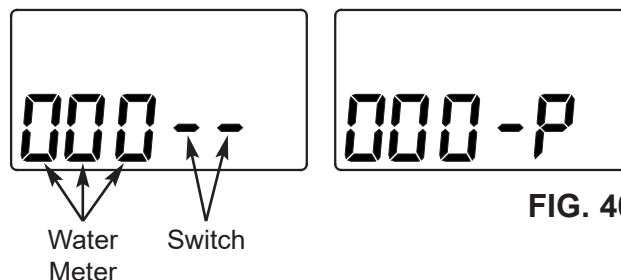

FIG. 40
3. The letter "P" and a dash (or dashes) indicate POSITION switch operation (See Figure 40). If the letter appears, the switch is closed. If the dash shows, the switch is open.